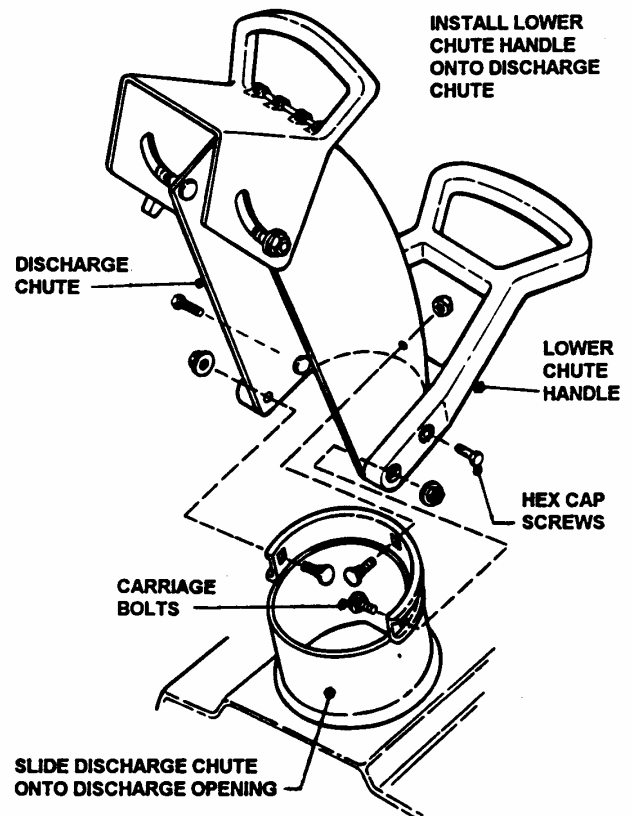

FIGURE 2
STEP 2: Install lower chute handle onto chute with two hex cap screws. Install chute/handle assembly onto discharge opening and secure with three carriage bolts and nuts. Tighten all nuts and bolts securely but, do not overtighten. See Figure 2.